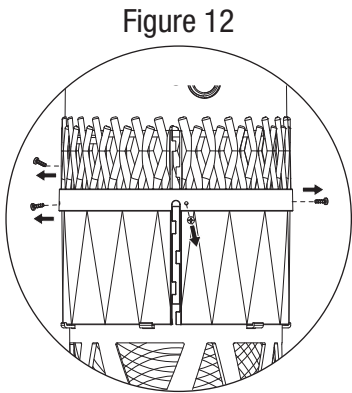

Figure 12
5. Remove the 4 screws holding the upper body to the lower body (Figure 12).
6. Carefully remove the upper body from the lower body (Figure 12).